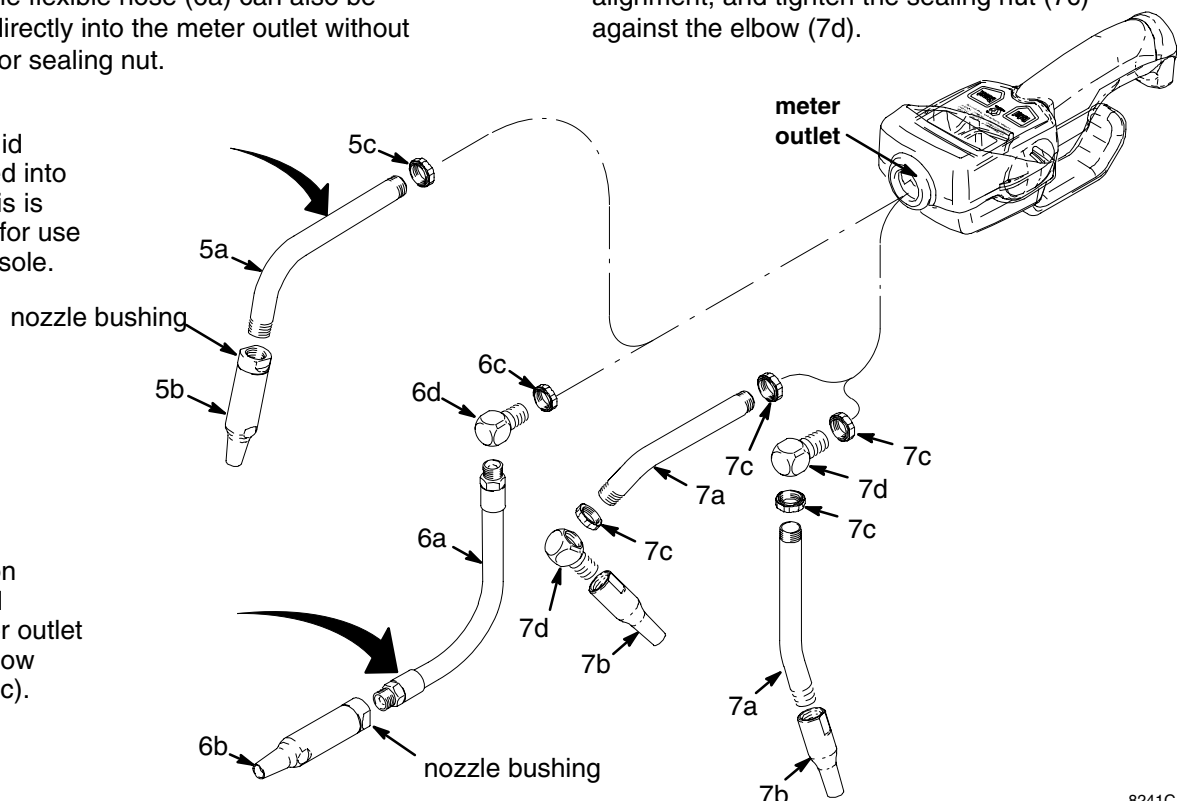

Fig. 4
See Fig. 4.
This nozzle assembly can be configured two ways. See Fig. 4.
11. Thread the new nozzle (5b, 6b, or 7b) onto the extension, and, with an open-end adjustable wrench, tighten it firmly. See Fig. 4.